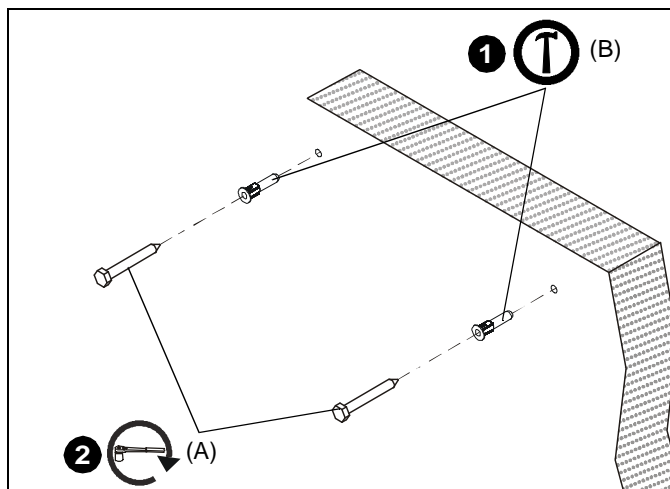

**Figure 24**
1. Use one 1/4 x 2-1/2" lag bolt (A) through product and into pilot hole. (See Figure 24)